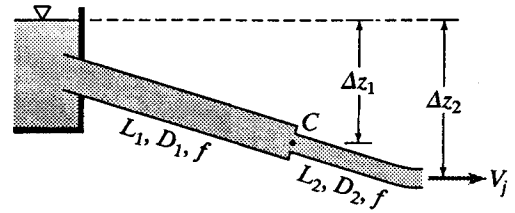

Figure P8.92
8.93 A pipeline 300 m long discharges freely at a point 50 m lower than the water surface at intake (Fig. P8.92). The pipe intake projects into the reservoir. The first 200 m is of 350 mm diameter, and the remaining 100 m is of 250 mm diameter. (a) Find the rate of discharge, assuming $f = 0.06$. If the junction point C of the two sizes of pipe is 40 m below the intake water surface level, find the pressure head (b) just upstream of C and (c) just downstream of C. Assume a sudden contraction at C.